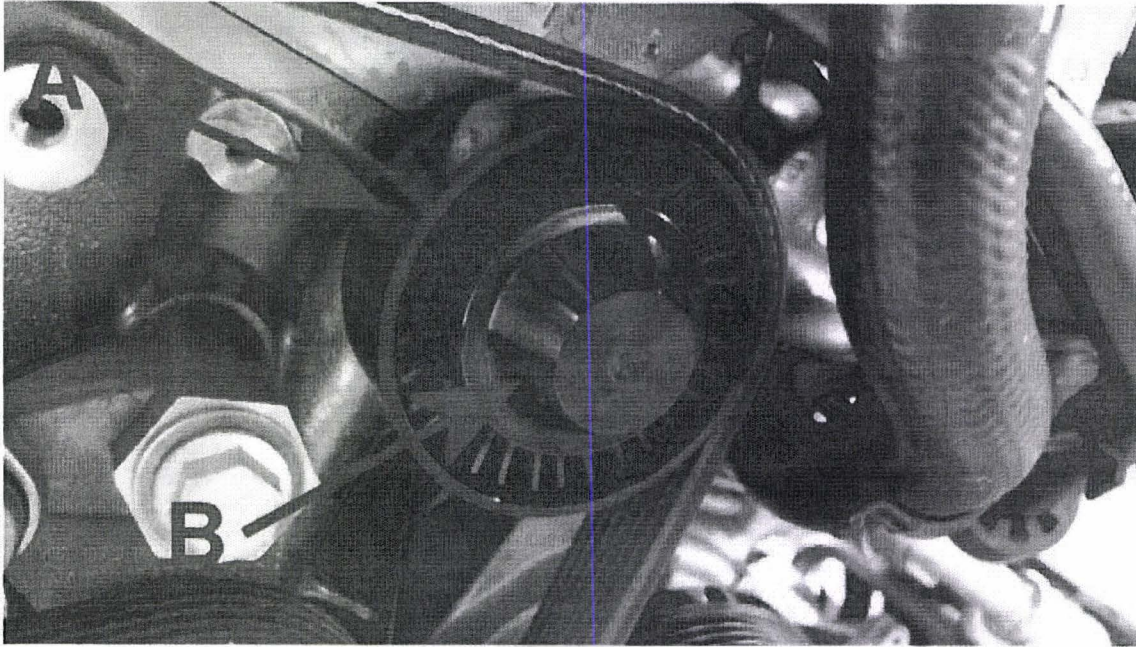

Figure 4
- The pulley can be identified as is has a smooth belt running surface (Figure 4 point A) and a deep cone shaped dust cap (Figure 4 point B)